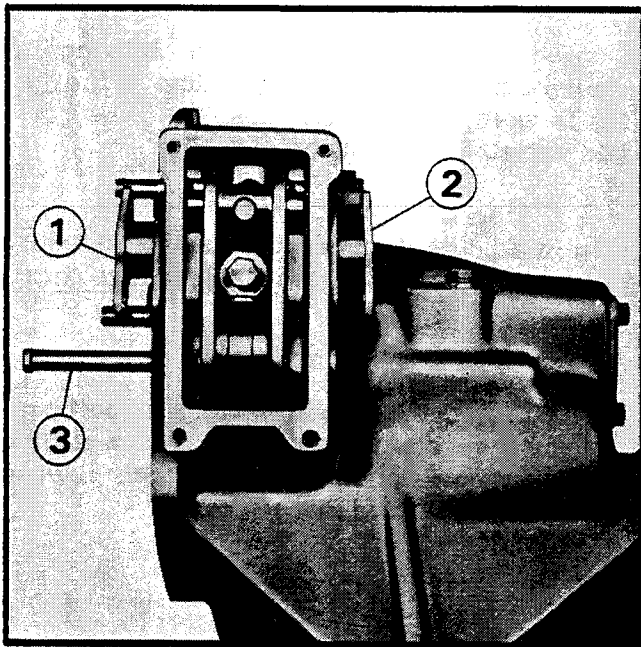

Fig. 15 — REMOVING BELCRANK SUPPORTS AND PIVOT PIN
5. Remove bellcrank supports, No. 1 and 2, Fig. 15, after first removing two allen headed capscrews securing each support.
6. Remove pivot pin, No. 3, Fig. 15. Drive pin toward inner side of final drive housing. Shoulder on head of pin fits flush into counter-bore on final drive housing.